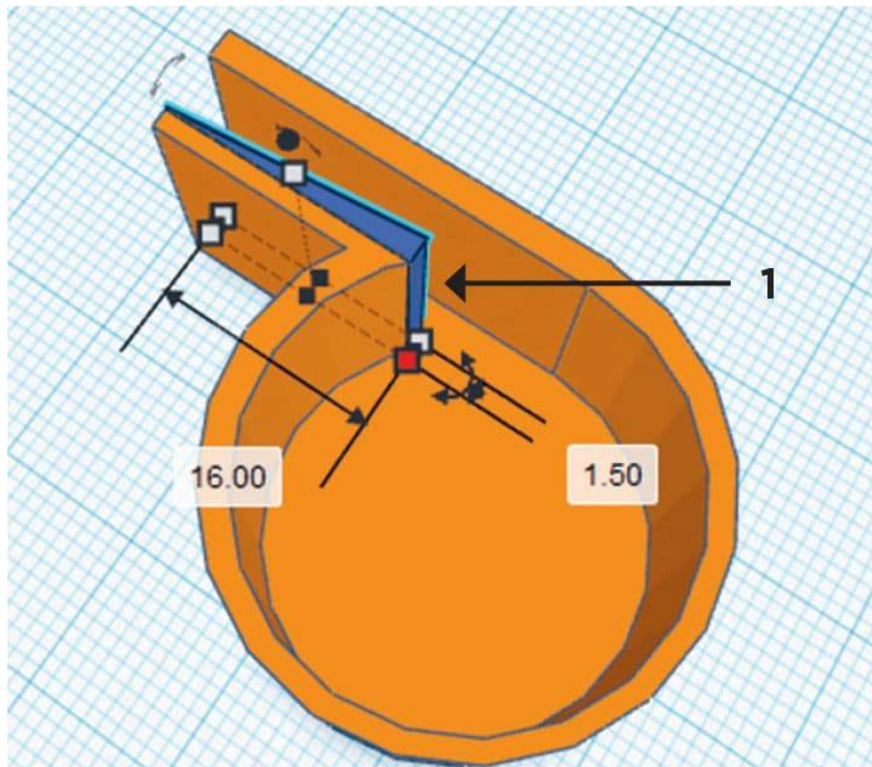

FIG. 4: Use a wedge to taper the inside of the whistle mouthpiece.
3. The mouthpiece hole needs to be tapered on the inside. Use the **Wedge** tool from the **Basic Shapes** toolbox to create a wedge that will attach to the inside of the mouthpiece to taper it. The wedge should be rotated as shown in fig. 4. It should be about 1.50 mm thick at the broader end (arrow 1 in fig. 4). Attach it to the inside of the mouthpiece hole as shown. Adjust the **SnapGrid** so you
can make modifications by less than 1 mm. There should be no gaps between the wedge and the lower face of the mouthpiece it attaches to. See fig. 4 for details.